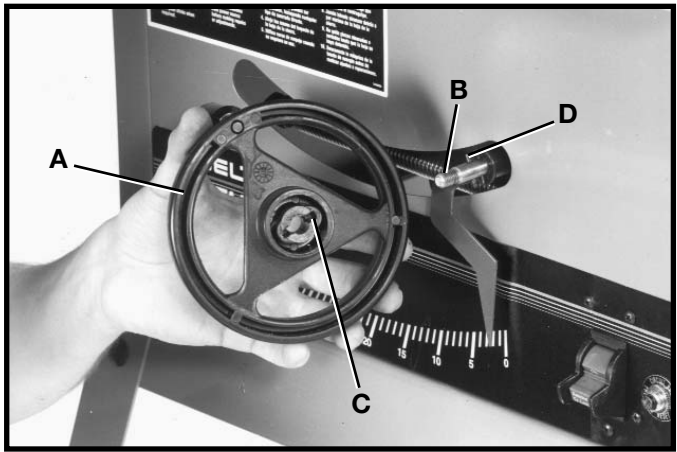

Fig. 7
1. Assemble the blade raising handwheel (A) Fig. 7, to the blade raising screw (B) making sure the slots (C) in the hub of the handwheel are engaged with the roll pins (D) on the raising screw shaft.